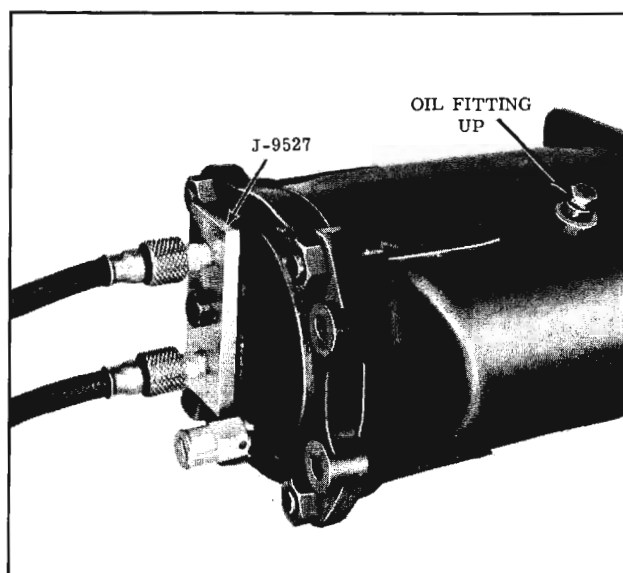

Fig. 15-62 Leak Testing Compressor
6. With Tool J-9527 installed on compressor (Fig. 15-62), leak test the compressor as follows: